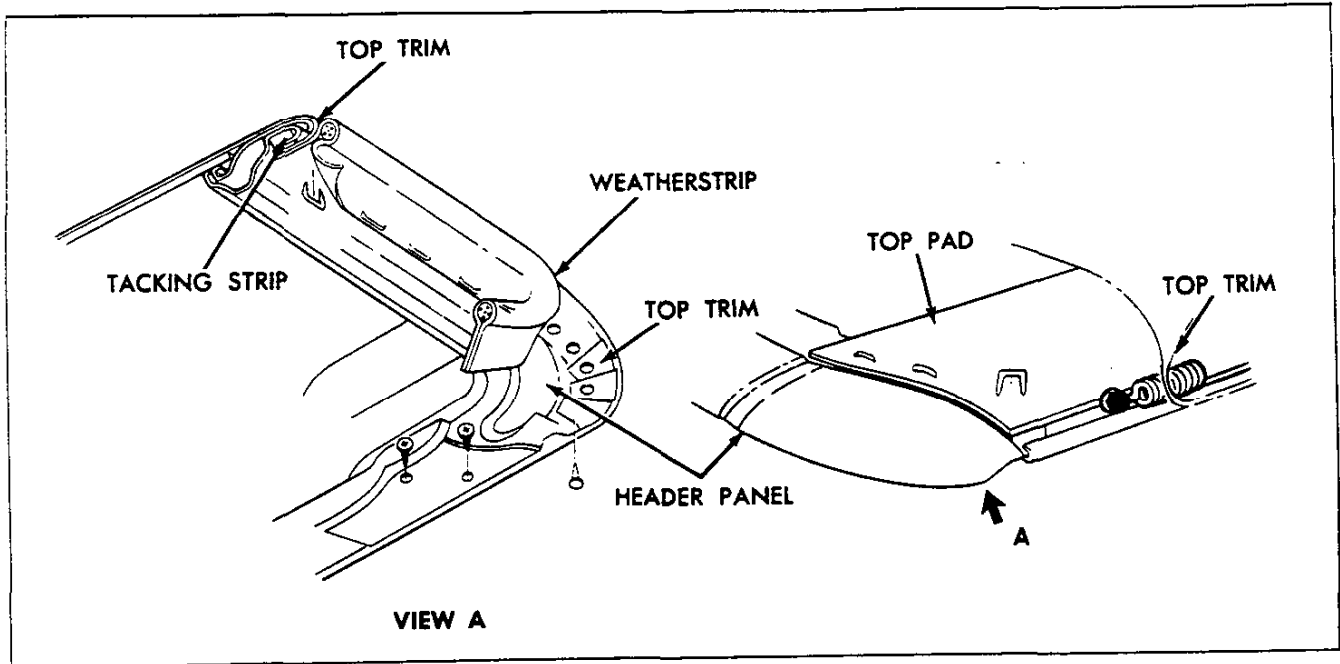

Fig. 70-Trim at Header
2. Remove tacks securing top and header outer weatherstrip to header (fig. 70).
| <p>12. With header locked down, pull trim assembly up tight and mark for final installation.</p> <p>13. Apply trim cement to header and rear side rail.</p> <p>14. Release header from windshield. Tack or staple trim to header (fig. 70).</p> | <p>15. Apply trim to rear side frame, previously cemented.</p> <p>16. Install weatherstrips which were removed at disassembly and install retaining screws in header weatherstrip.</p> <p>17. Install header trim panel.</p> |